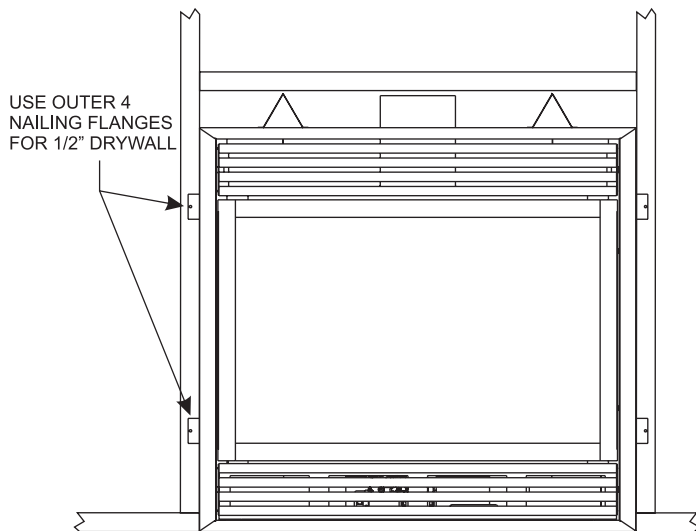

Figure 10A
**NOTICE:** Fireplace must mount flush to facing material. If facing material requires more depth than 3/4" mark and drill two 1/8" holes into fireplace side at appropriate depth. **See Figure 10A.**